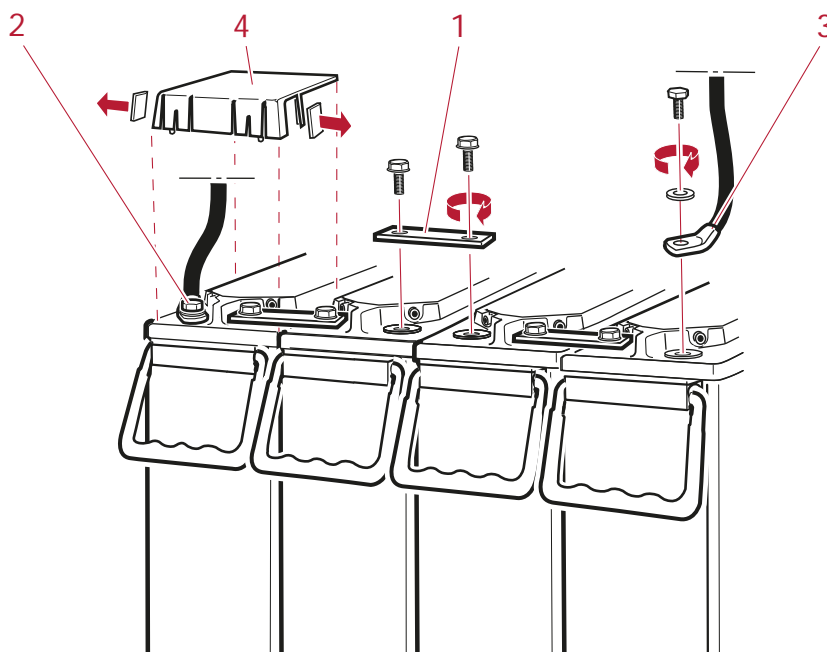

Figure 4-10 Battery Installation (Example only)
1. Attach interblock connections between the battery blocks (Figure 4-10, Detail 1).
2. Connect the negative “-” cable to the negative pole of the battery string (Figure 4-10, Detail 2). Tighten the connection to a torque of 5-6Nm.
3. Connect the positive “+” cable to the positive pole of the battery string (Figure 4-10, Detail 3). Tighten the screw to 5-6Nm.
4. Attach plastic pole protection caps to the battery poles (Figure 4-10, Detail 4).